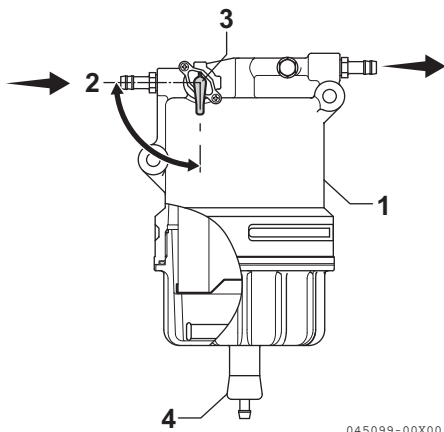

Figure 5-7
1. Position an approved container under the water separator (**Figure 5-7, (1)**) to collect the contaminants.
2. Close (**Figure 5-7, (2)**) the fuel cock (**Figure 5-7, (3)**).
3. Loosen the drain cock (**Figure 5-7, (4)**) at the bottom of the water separator. Drain any water collected inside.
5. Open the fuel cock (**Figure 5-7, (3)**).